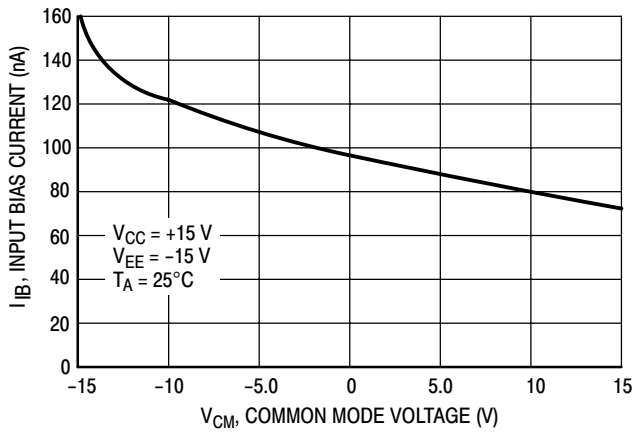

**Figure 2. Maximum Power Dissipation versus Temperature**
2. Power dissipation must be considered to ensure maximum junction temperature ( $T_J$ ) is not exceeded. (See power dissipation performance characteristic, Figure 2.)